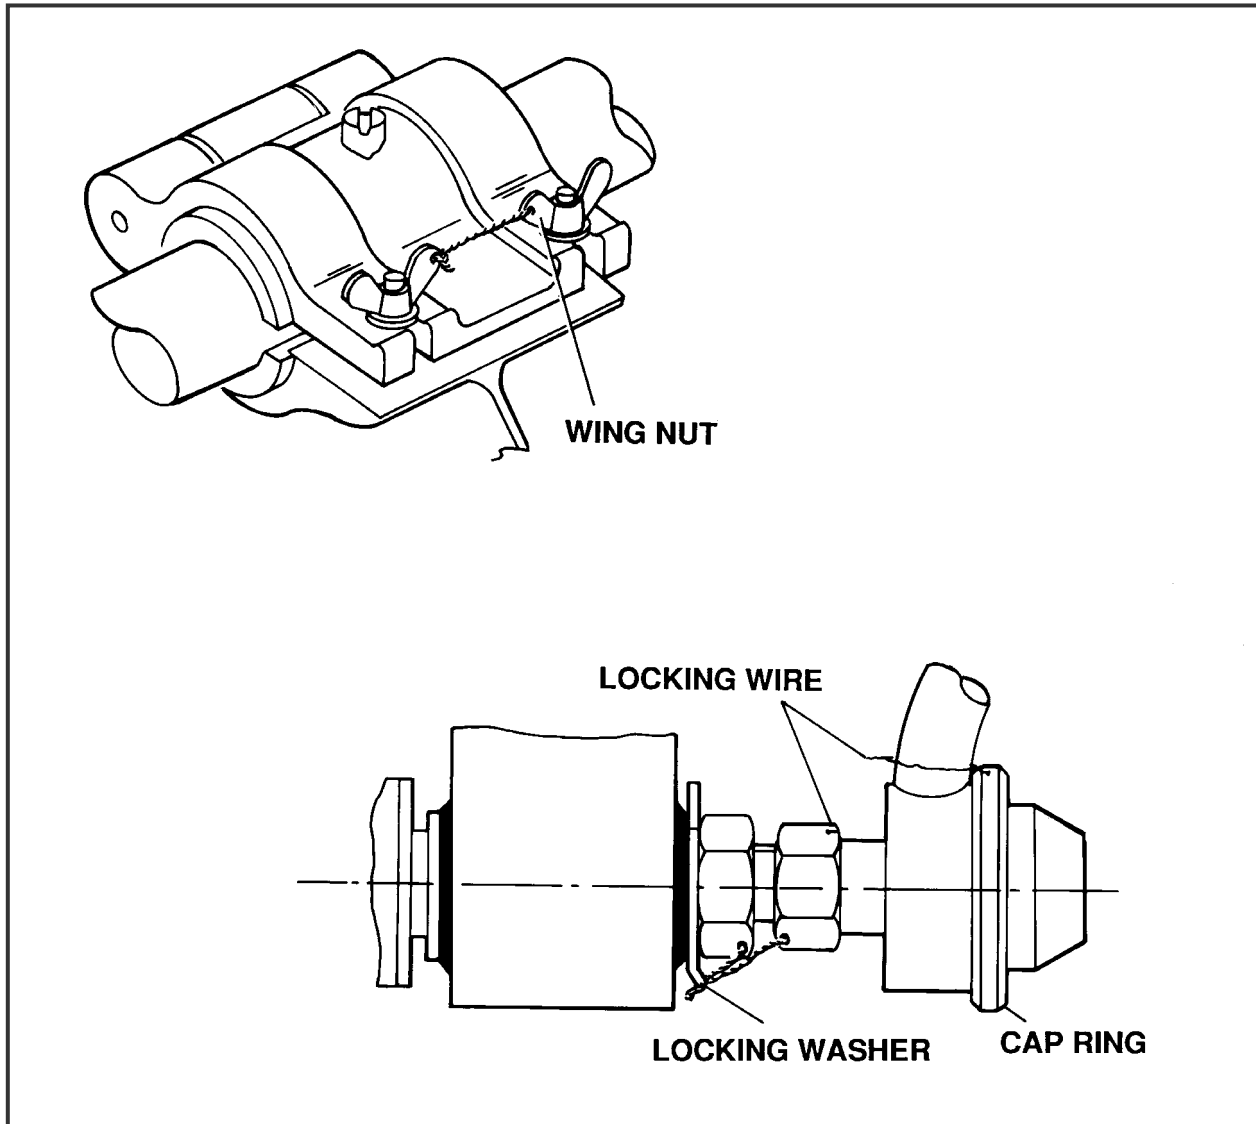

Fig. 2 – Wire Locking of Atomiser and Components
1. The two wing nuts of the mounting clamp must be evenly tightened to a torque of approximately 0.7 nm (0.5 lb ft) and wire locked together using the holes provided as shown in Fig. 2.
2. Tighten the atomiser securing nut (EX1514) to a torque of approximately 14 nm (10 lb ft) and wire lock to one hole in the locking washer (EX1575) as shown in Fig. 2.
3. Tighten the diaphragm check valve outlet nut and wire lock to the second hole in the locking washer (EX1575) as shown in Fig. 2.